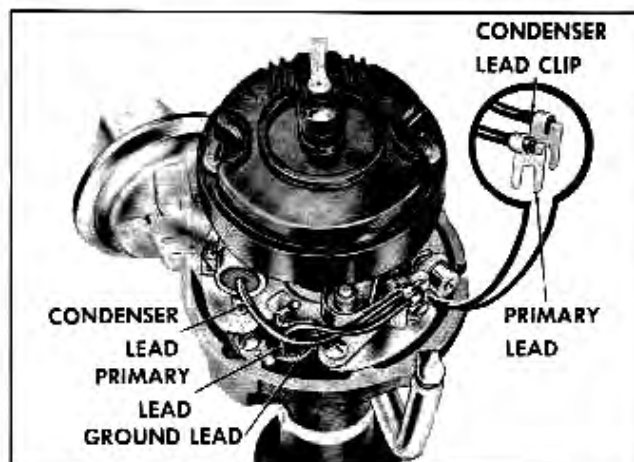

Fig. 12-56 Arrangement of Condenser and Primary Leads
3. Replacement is the reverse of removal. **CAUTION:** Make sure the condenser lead and primary lead are located as in Fig. 12-56. Leads must be properly located to eliminate interference between leads and cap, weight base, or breaker plate.